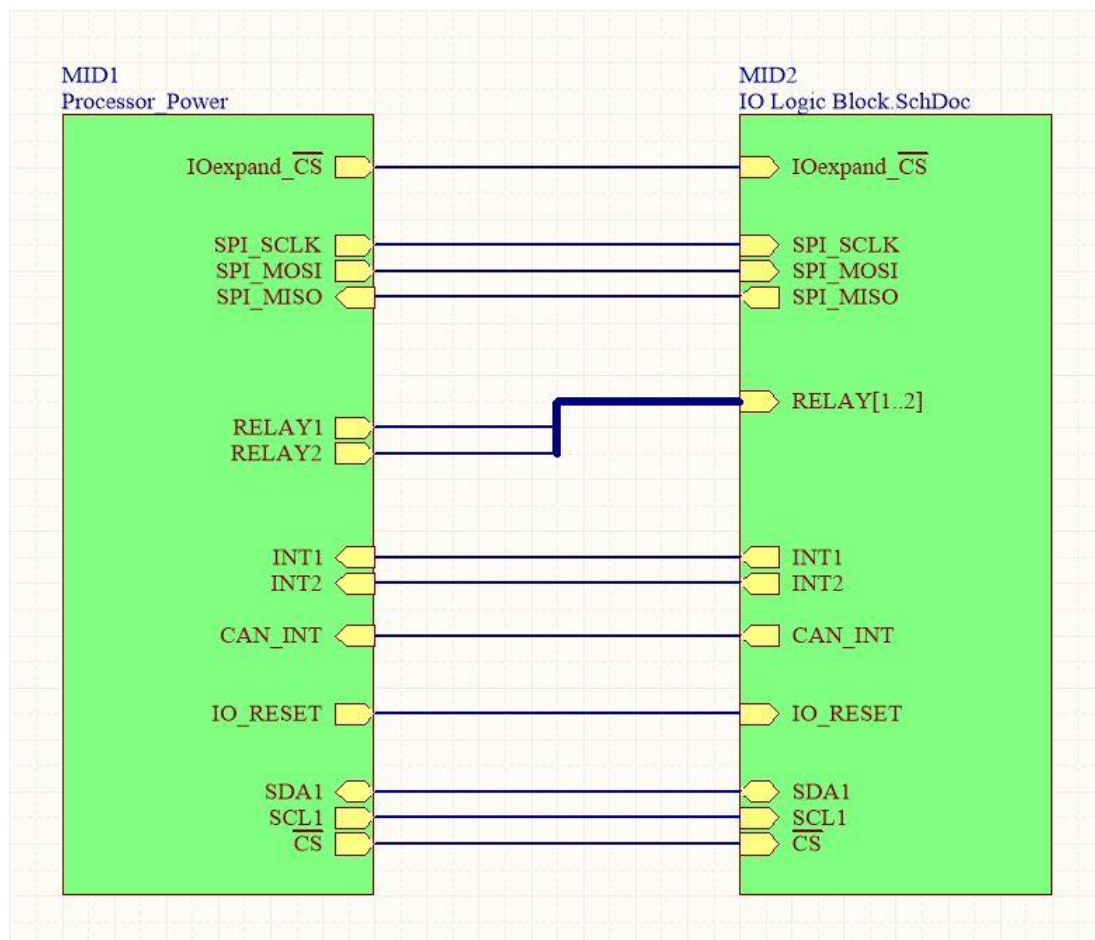

Figure 6. Wired Sheet Symbols
- b) Proceed downwards so that there is sufficient amount of bus wire available for wires to extend to the `RELAY1` and `RELAY2` sheet entries of the `MID1` sheet symbol, as shown in Figure 6, and left-click.
26. Wire the `RELAY1` and `RELAY2` sheet entries of the `MID1` sheet symbol to the bus using **Place » Wire**, as shown in Figure 6 below. Right-click to end the command when you are finished.